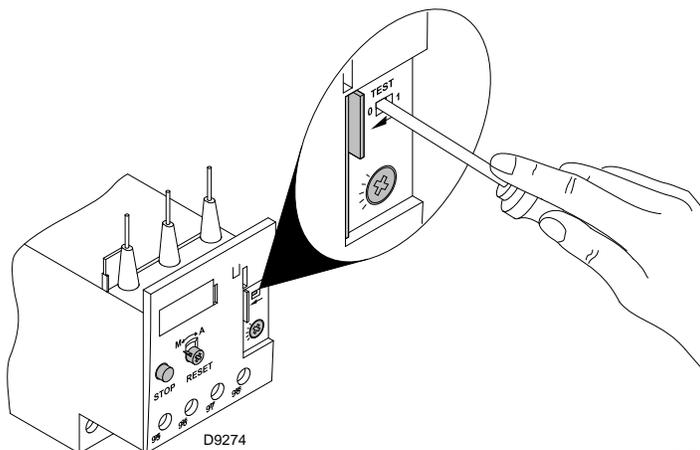

Fig. 32
- To test the thermal relay, insert a screwdriver in the window "TEST" (Fig. 32) and move it in the sense of the arrow (towards right).